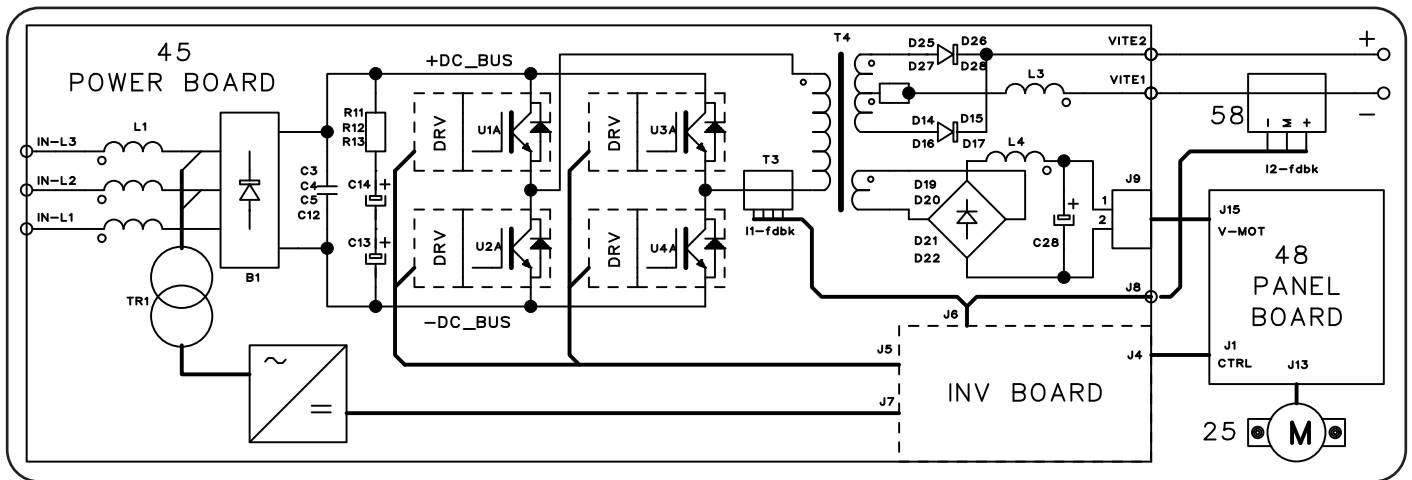

Fig. 2.3.1 (art. 323)
More precisely in the power board (45) they can be identified (Fig. 2.3.1, 2.3.2):
- the igbt inverter, that generates the square wave alternated voltage for the T4 power transformer, installed on the power board (45);
- art. 323, see Fig. 2.3.1 and Connectors map, par. 5.6: